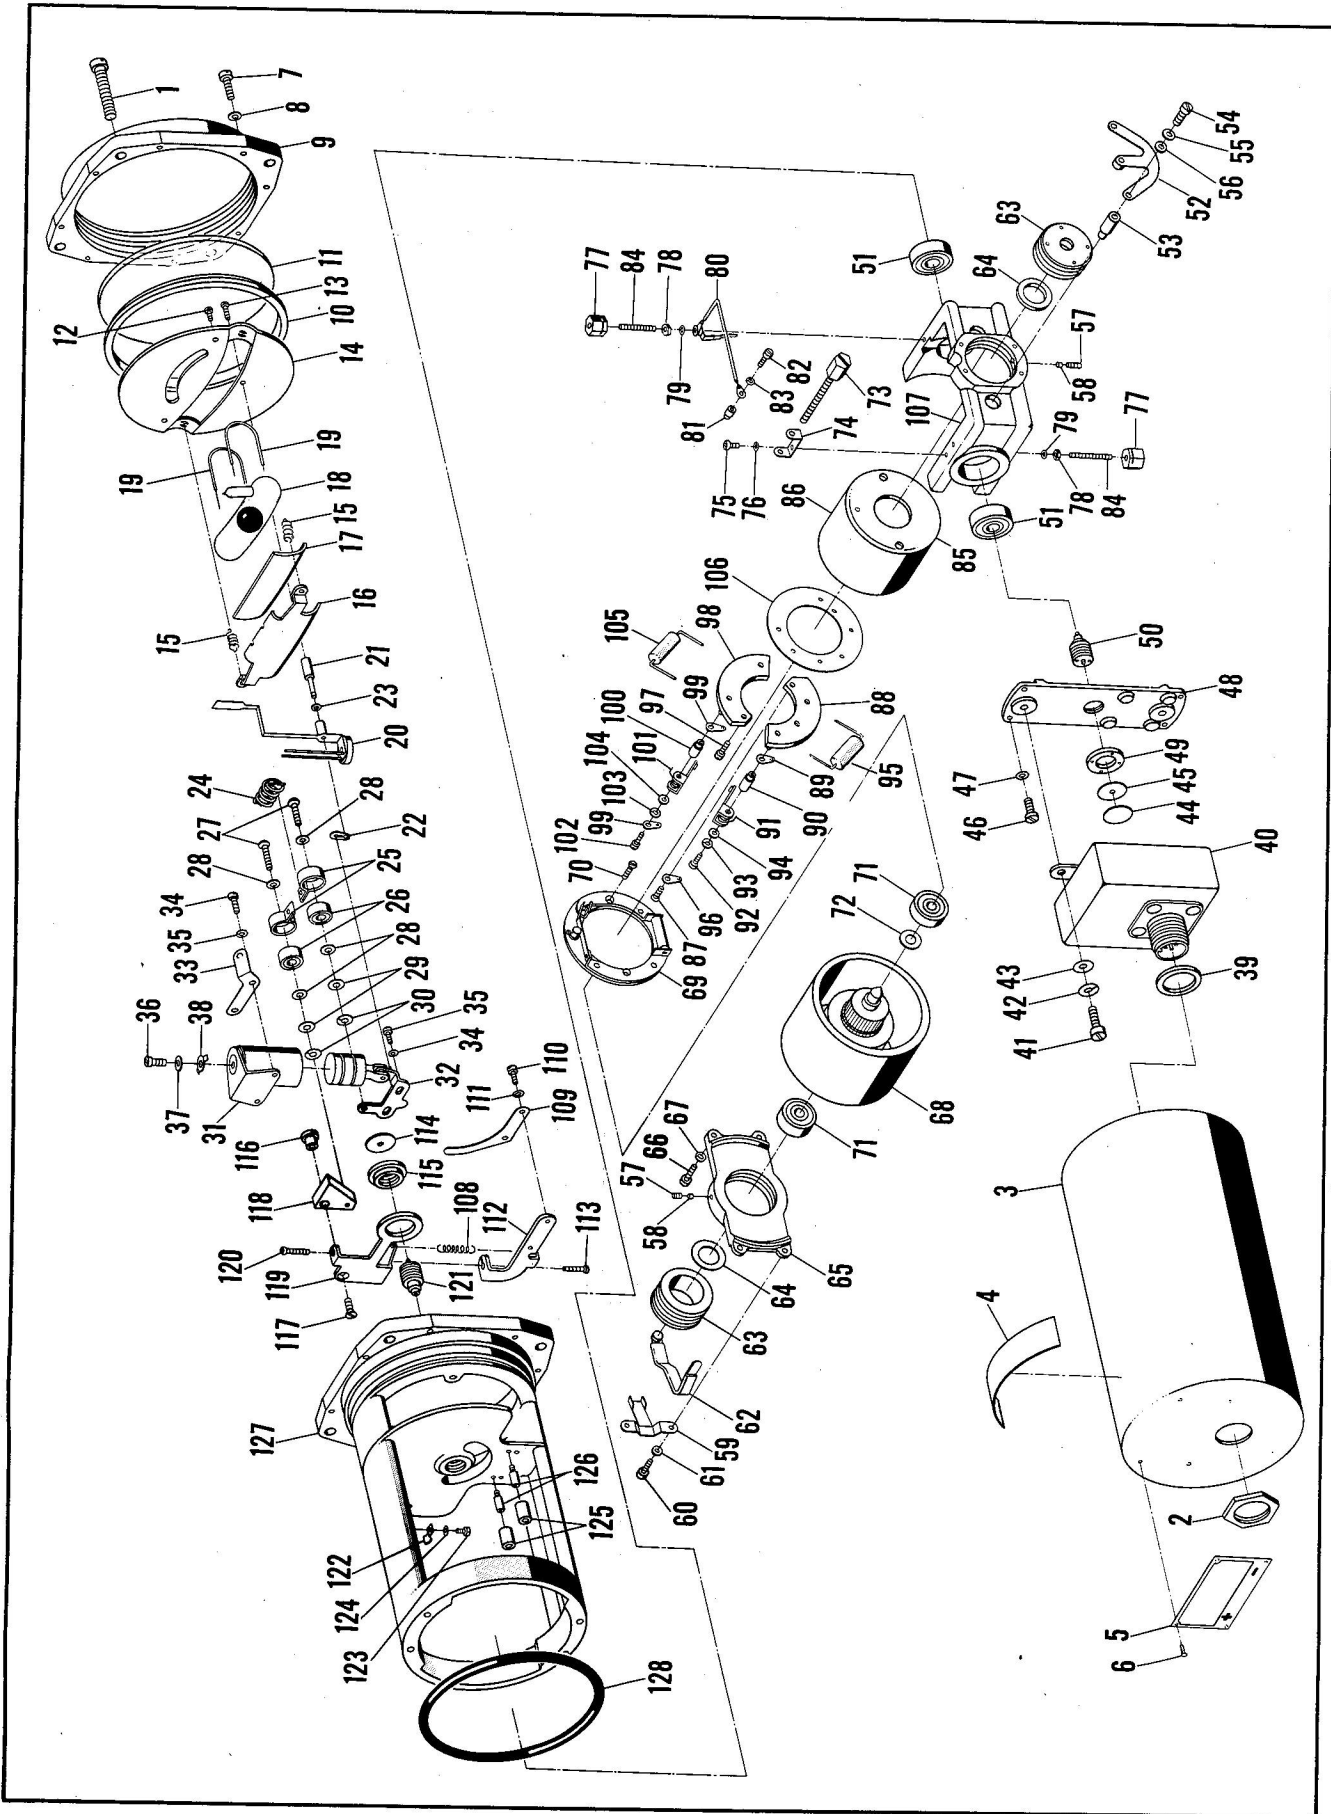
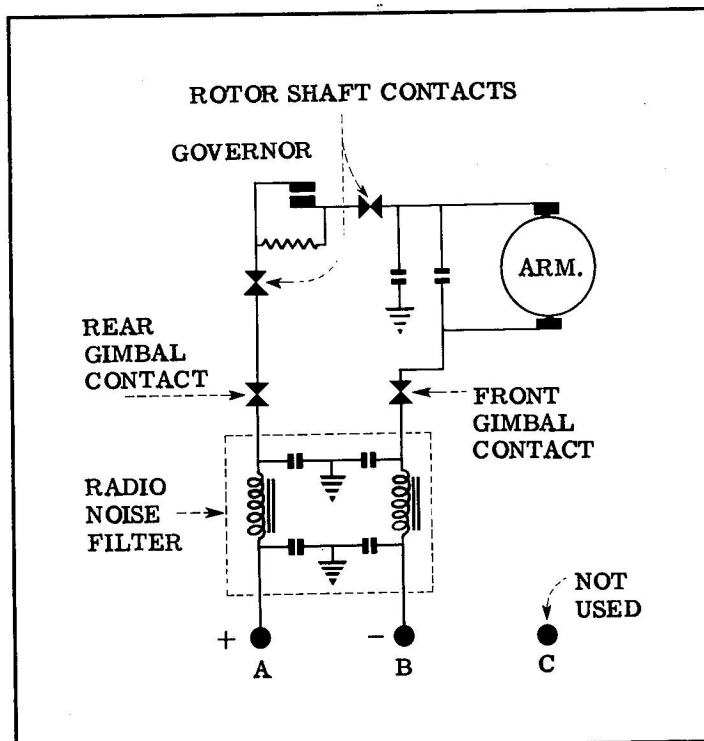

Figure 4-7. Bank and Turn Indicator Assembly, Model B4B
Figure 4-8. Wiring Diagram, Model B4B
DISASSEMBLY. (See figure 4-7.) Same as Model B4 except that filter assembly (40) replaces individual radio noise filtering components used on Model B4, and insulation (44) is used between insulating washer (45) and the filter assembly. The negative side of the electrical circuit is insulated throughout with insulation (81), and (114), and pivots (90), and (100). Condenser (105) is used between negative brush arm assembly (101) and ground. See figure 4-8 for wiring diagram.
TEST PROCEDURE. Same as Model B4. See figure 4-8 for wiring diagram.
KEY FOR FIGURE 4-7